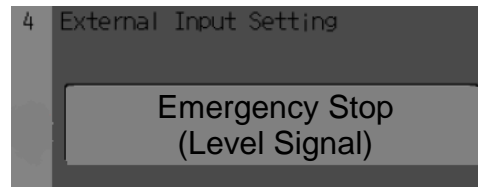

Figure 5. Initial Settings on a TC-24 touch screen
3. If a TC-24 is installed, go to the “Initial Settings” of the touch screen and make your selection on the “Basic System” page as shown in Figure 5.